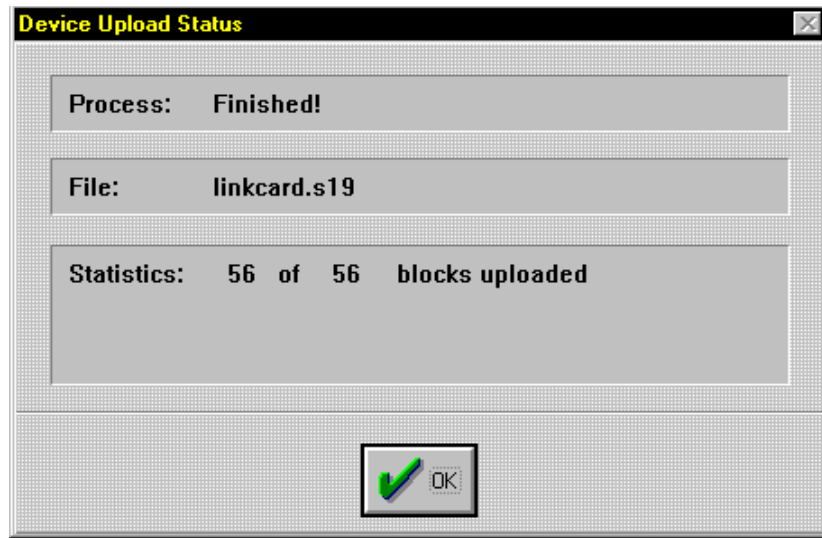

Figure 1.37. Device Upload Status-Finished! Dialogue Box
5. After the **Please EXIT Windows and Restart!** dialogue box is dismissed, the **Device Upload Status-Finished!** dialogue box will appear. Click the **OK** button to dismiss the dialogue box. Refer to Figure 1.37.